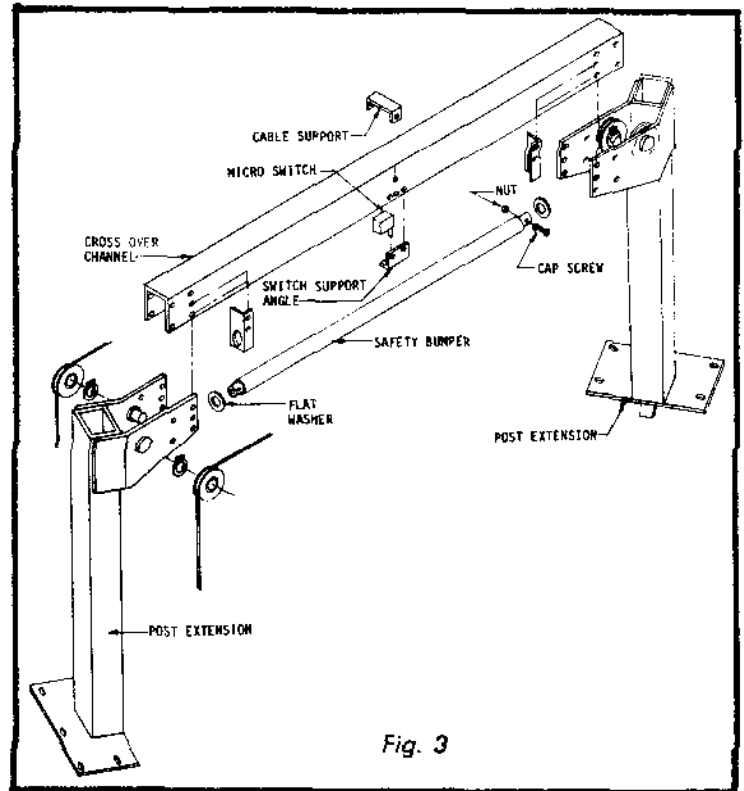
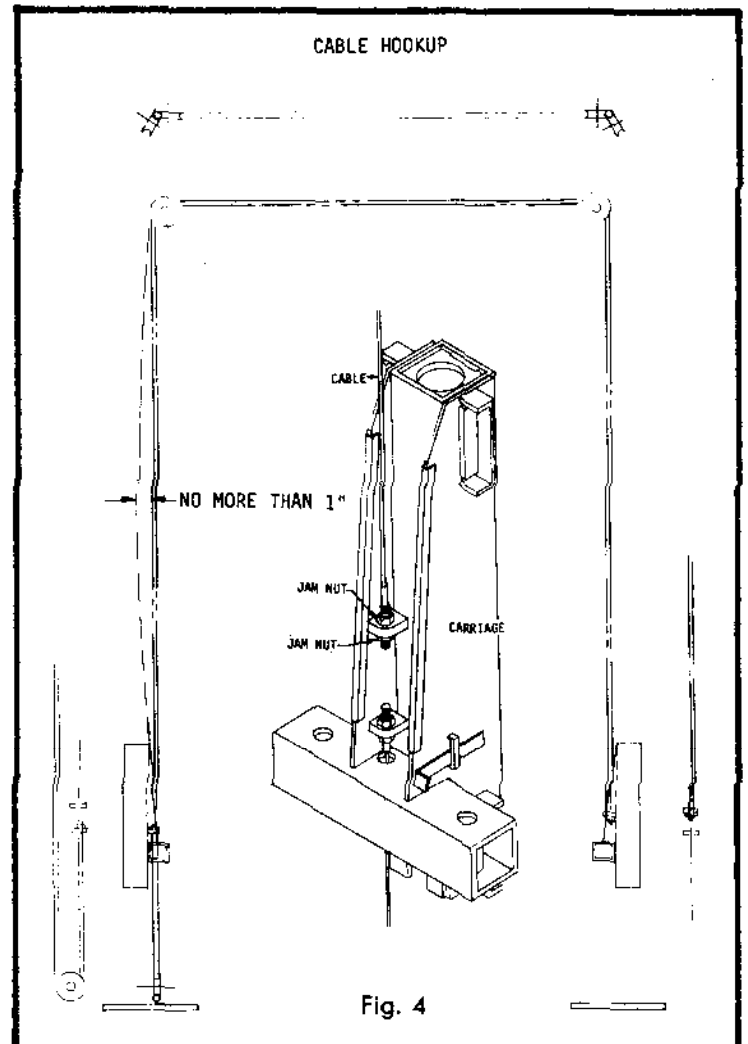

Fig. 3
Fig. 4
12. Assemble the two (2) overhead vertical post extensions to the horizontal cross over channel with (16) 3/8"-16NC x 1" long HFHSL screws and HFHSL nuts. **NOTE:** The cross over channel fits inside the post extensions. (See Fig. 3).
13. Install cable support to the two (2) top center holes in the cross over channel with flanges turned down. (See Fig. 3).
14. Install the equalizing cables over the sheaves at this time. (See Fig. 3). Square post extensions with cross over channel and tighten screws.
15. Install the switch bracket to the cross over channel with two (2) 5/16" x 3/4" long HFHSL screws and secure with HFHSL nuts. (See fig. 3). **NOTE:** On three phase power units the
16. Install the LH and RH support angles for the safety cut off to the cross over channel. (See fig. 3).
17. Install safety bumper (pipe with vinyl sleeve installed) through support angles. Install large washer over ends and secure with (2) two 5/16" x 1 1/2" long cap screws, lock washers and nuts. (See Fig. 3).
18. Lift assembled overhead structure to the top of both post and install with (8) eight 1/2" x 1 1/4" long HFHSL bolts and nuts. Use (4) 1/2 x 3/4" long HFHSL screws to install vertical legs to tapped pads on post.
20. Tighten all screws and plumb offside post. Using the holes in the post base as a template and centering the drill in the holes, drill holes in concrete as stated in paragraph (8).
23. Run cable from point "A" (installed para. 14) through carriage around sheave "C" and install jam nuts on both sides of cable anchor at point "D" at front of carriage. Bring cable from sheave at point "B" and install jam nuts on both sides of cable anchor at point "E" on back side of carriage. (See Fig. 4).
25. Tighten cables until both carriages are level and cables will not deflect more than 1" (inch) when pressure is applied by hand towards the back of the post. (See Fig. 4).
32. Install over travel cut off switch to angle bracket on bottom of cross over channel. (See Fig. 3). Position switch as near safety bumper as it can be positioned. Using plastic wire ties, clamp the electrical cable to the hose assembly previously installed. (See Fig. 6).